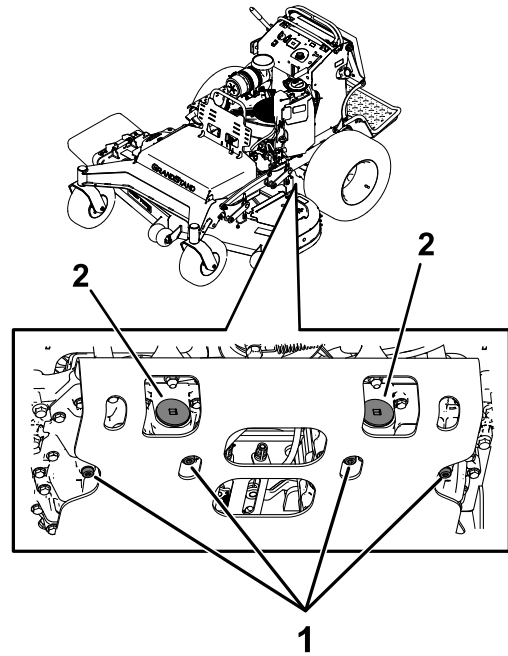

Figure 70
5. Locate the drain plug in the bottom of each transmission and place a drain pan under the plugs (Figure 70).